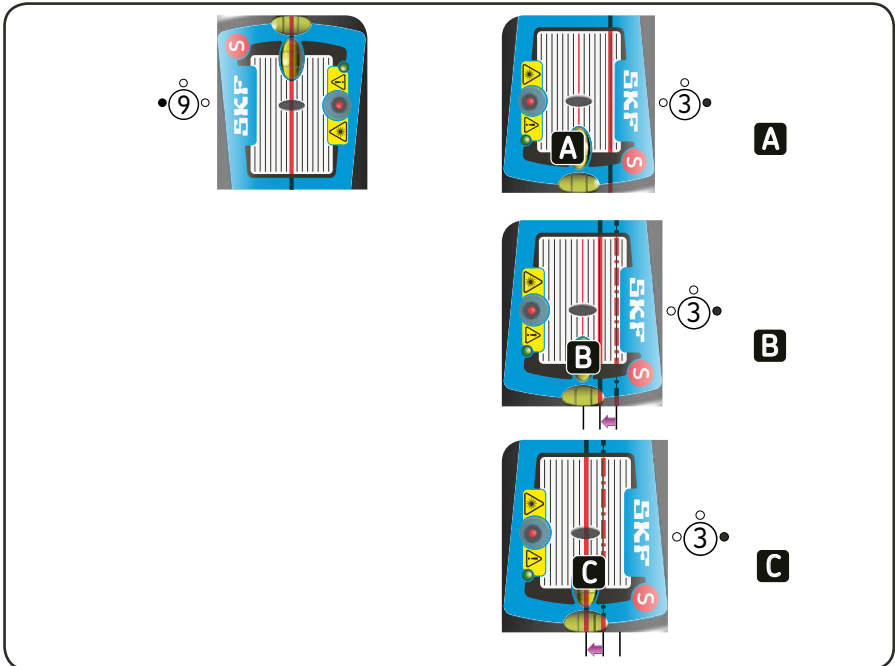

Fig. 11. Rough alignment
- d) If the horizontal alignment is very poor the laser lines might travel outside the detector areas. If this happens a rough alignment must be done. Do this by aiming the laser lines at the positioning detectors in the 9 o'clock position. Turn the measuring units to the 3 o'clock position when the lines will hit outside the detector areas. Adjust the lines to the position half-way between the detector centre and the actual position by means of the adjustment mechanism as per fig. 11. Align the Movable machine until the lines hit the centre of the positioning detector.